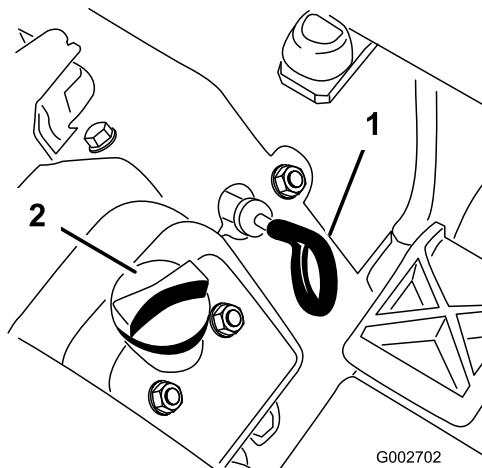

Figure 10
3. Pull out the dipstick (Figure 10) and wipe it with a clean rag. Insert the dipstick into the tube and make sure that it is seated fully. Remove the dipstick from the tube and check the oil level. If the oil level is low, remove the filler cap from the valve cover and add enough oil to raise the level to the Full mark on the dipstick.